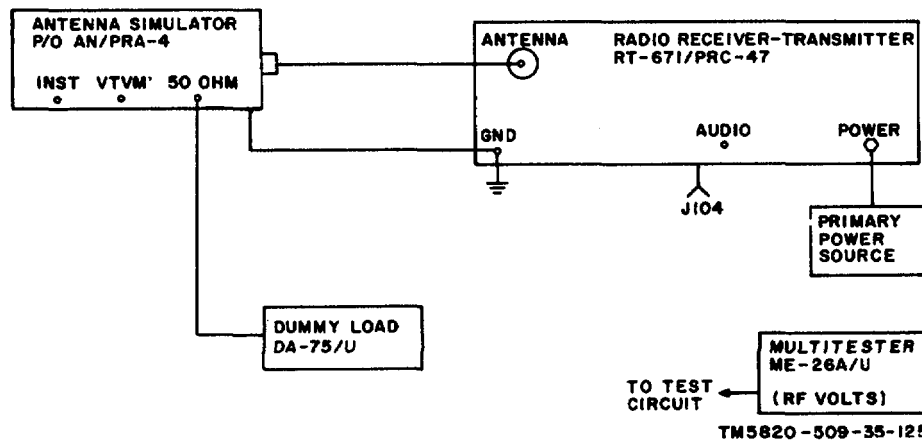

Figure 3-110. Power Amplifier Grid Drive Adjustment, Test Equipment Setup.
(4) Connect the antenna simulator of AN/PRA-4 and the dummy load to the receiver-transmitter as shown in figure 3-110. Set the selector switch on the antenna simulator to the 2.0 MHz position.
(5) On the front panel of RT-671/PRC-47, set the controls as follows: